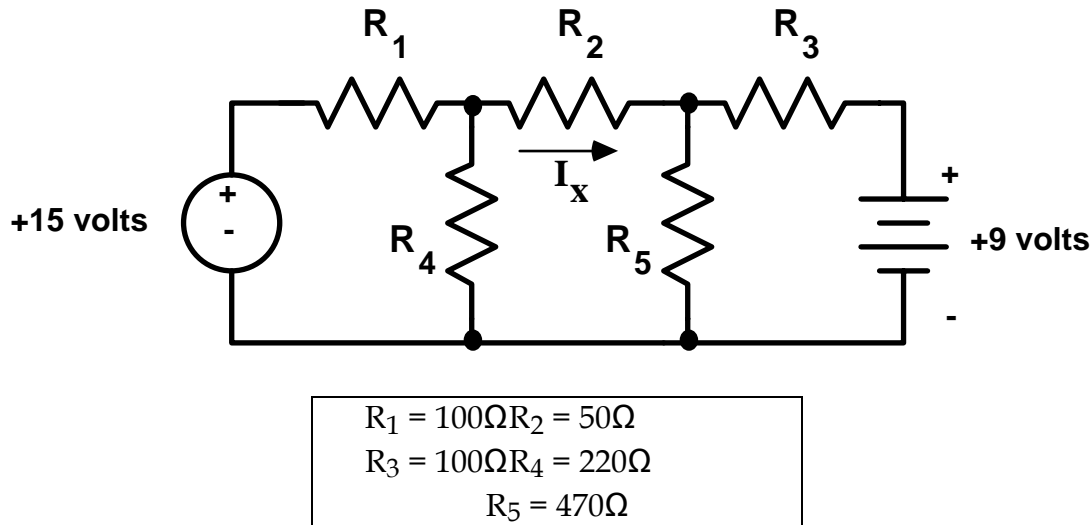

Figure 11.1
- (I) Use superposition to calculate the current I_X in the circuit of Figure 11.1.
- (II) Verify the results of the superposition method (used in step 1) by finding I_X using mesh analysis.
- (III) For the circuit of Figure 11.1, find the value of R_4 which will cause I_X to equal zero.
- (IV) Use the superposition method (as in part I) to find:
- (1) Determine the *internal resistance* of the 9 volt battery by:
- (2) Measure the resistance of all resistors for Figure 11.1 and then assemble the circuit.
- (3) Measure the value of the current I_X .
- (4) Replace the 15 volt power supply with a short circuit and then measure I_X .
- (5) Return the 15 volt supply to the circuit and remove the 9 volt battery. Since the battery has a significant internal resistance, replace the battery with resistors (or variable potentiometer) equal to the resistance determined experimentally in part 1. Measure I_X .
- (6) Return the battery to the circuit and replace R_4 with a resistor of value calculated to reduce I_X to zero (from prelab). Measure V_{R_4} , V_{R_5} , and the current through R_2 . Adjust the value of R_4 to reduce the current I_X to zero, then record the value of R_4 .
- (7) Measure the resistance of a $470\ \Omega$ resistor and connect it across the DC power supply. Measure the current through the resistor as the supply is varied from 1 to 10 volts (1 volt increments). Use the multimeter to adjust the voltage (not the internal supply meter).